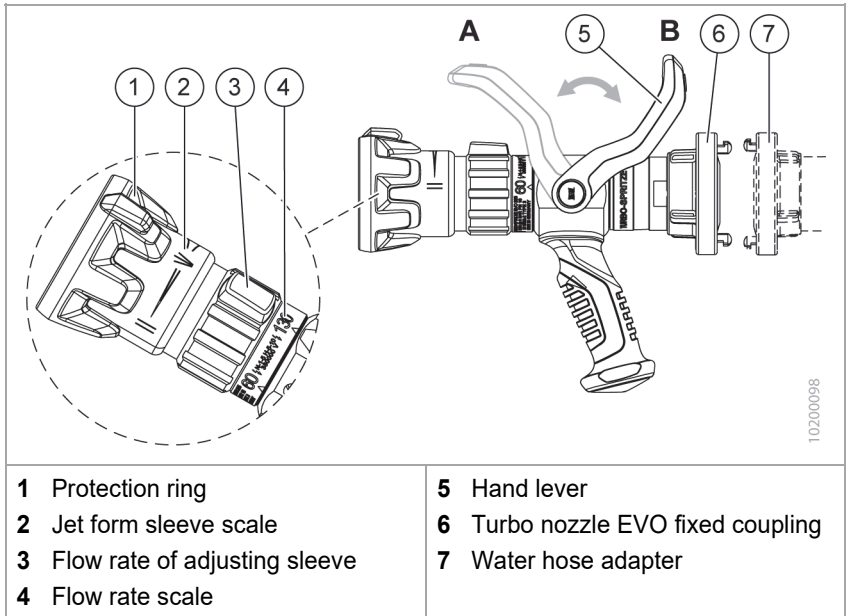

Fig. 2 Handling
- ✓ The hand lever is closed (Fig. 2/A).
1. By hand or with the use of a suitable coupling spanner, attach the coupling of the water hose (Fig. 2/7) to the coupling on the turbo nozzle EVO (Fig. 2/6).
2. Set the adjusting sleeve (Fig. 2/3) to the desired flow rate (Fig. 2/4).
2. Pull the hand lever (Fig. 2/5) back towards yourself in the OPEN (Fig. 2/B) position.
The extinguishing agent discharge is started. As soon as the hand lever is moved forward again to the CLOSED (Fig. 2/A) position, the extinguishing agent discharge stops.
1. By turning the protection ring (Fig. 2/1) you can switch between full and spray jet during use:
1. Push the hand lever (Fig. 2/5) forward to the CLOSED (Fig. 2/A) position away from the body.
3. Turn the adjusting sleeve (Fig. 2/3) into the flushing position (turn the adjusting sleeve beyond the maximum position to the 7 o'clock position).
4. By hand or with the use of a coupling spanner, release the coupling of the water hose (Fig. 2/7) to the fixed coupling on the turbo nozzle EVO (Fig. 2/6).